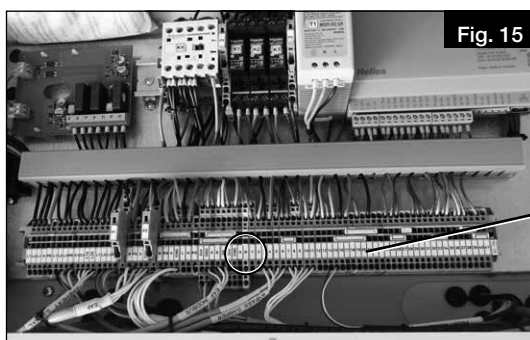

Fig. 15
3. Connect the controller cable to the marked terminals in the terminal box (Fig. 15) according to the wiring diagram.